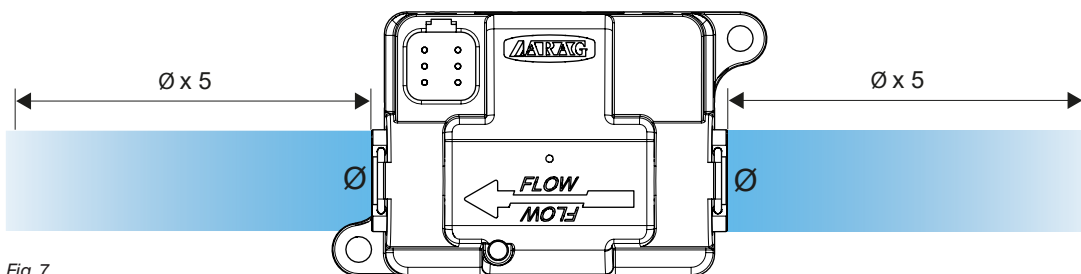

Fig. 7
- Upstream and downstream the flowmeter it is recommended to install a pipe straight line whose length is at least 5 times the inner diameter of Orion 3 (Fig. 7). Install the flowmeter far from the elements that could cause turbulence inside the pipe (valves, bends, bottlenecks, etc.).